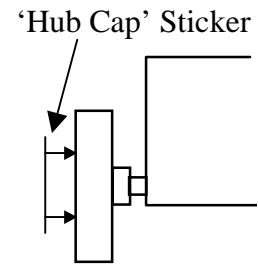

FIGURE 25
7. **Hub Caps** - If your wheels are solid from the tread to the bore (no spokes), then after inserting the axle, you can use a round sticker to cover the outer portion of the wheel (see Figure 25).